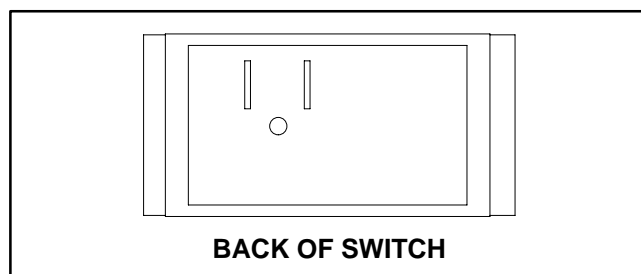

Figure 11
2. The switch terminals are marked as shown in Figure 11. In the ON position, continuity should exist between the two terminals. In the OFF position, there should be no continuity between the switch terminals.